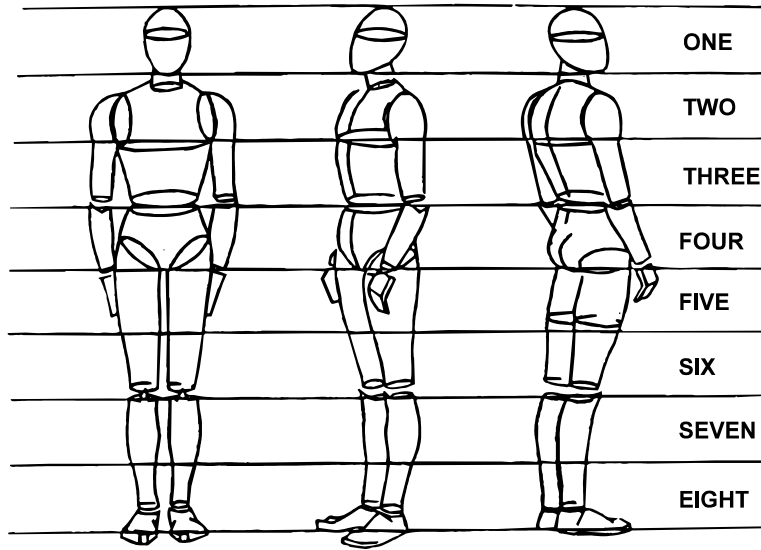

Figure K-1. Ideal figure proportion.
d. After the height of the standing figure is decided, it should be divided into eight equal parts to make the figure slightly taller and slimmer than the average person. (See Figure K-1.) As shown in Figure K-1, the other seven heads are divided as follows:
- (1) One-third of a head for the neck.
- (2) Two and two-thirds heads for the torso (from the bottom of the neck to the crotch).